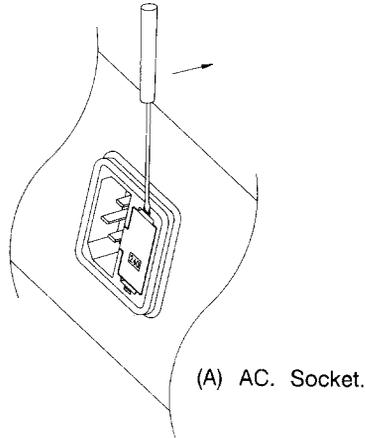

Figure 12-1. Fuse replacement and voltage selection
- Figure 12-1,12-2. Fuse Replacement and